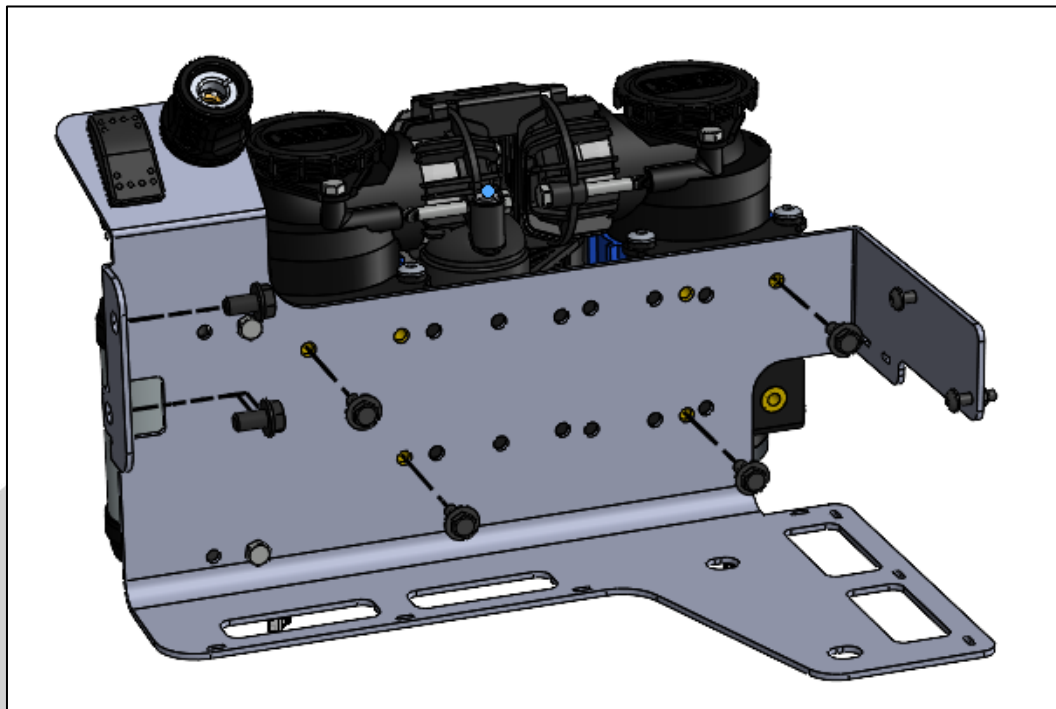
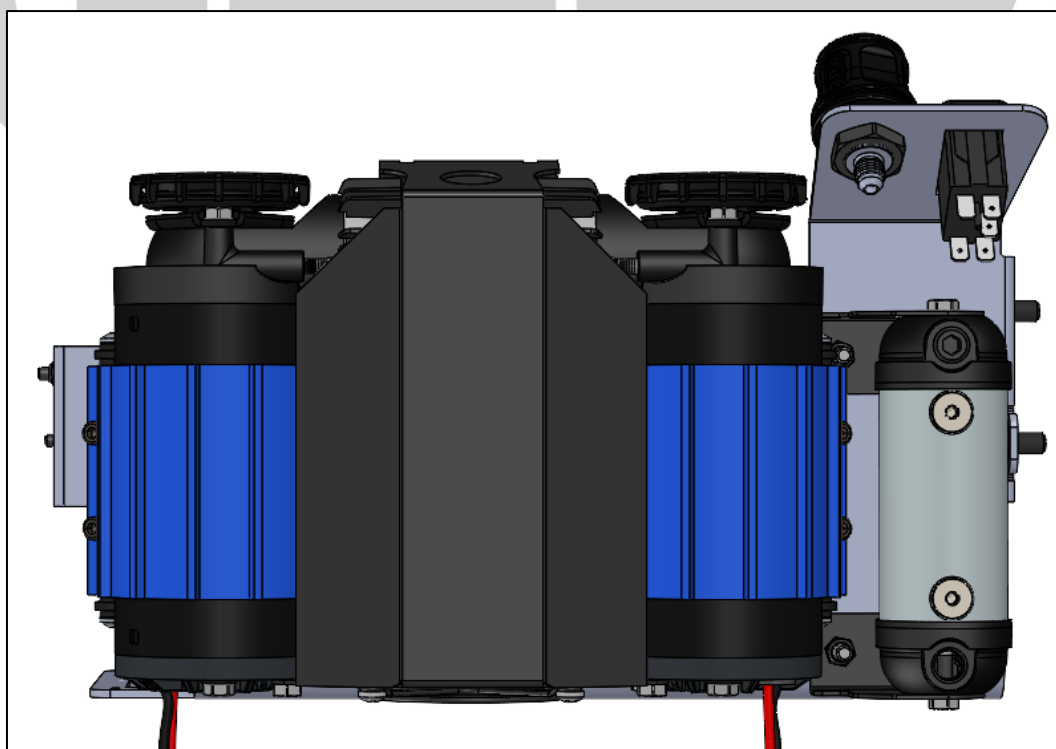

Figure 4. Brushed Twin Compressor bracket pre-assembly front view
Figure 5. Brushed Twin Compressor bracket pre-assembly rear view
- ☐ Secure the compressor to the bracket using the included M6 fasteners and the hole pattern shown in Figure 4 and Figure 5.